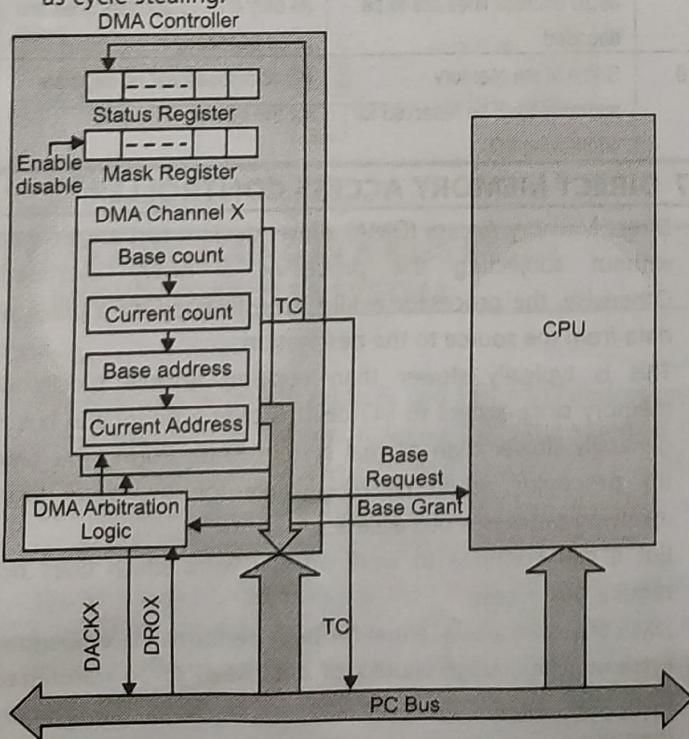

Fig. 5.6 (a) : DMA controller architecture
- Fig. 5.6 (a) shows the DMA controller architecture and how the DMA controller interacts with the CPU. In bus master mode, the DMA controller acquires the system bus (address, data, and control lines) from the CPU to perform the DMA transfers. Because the CPU releases the system bus for the duration of the transfer, the process is sometimes referred to as cycle stealing.